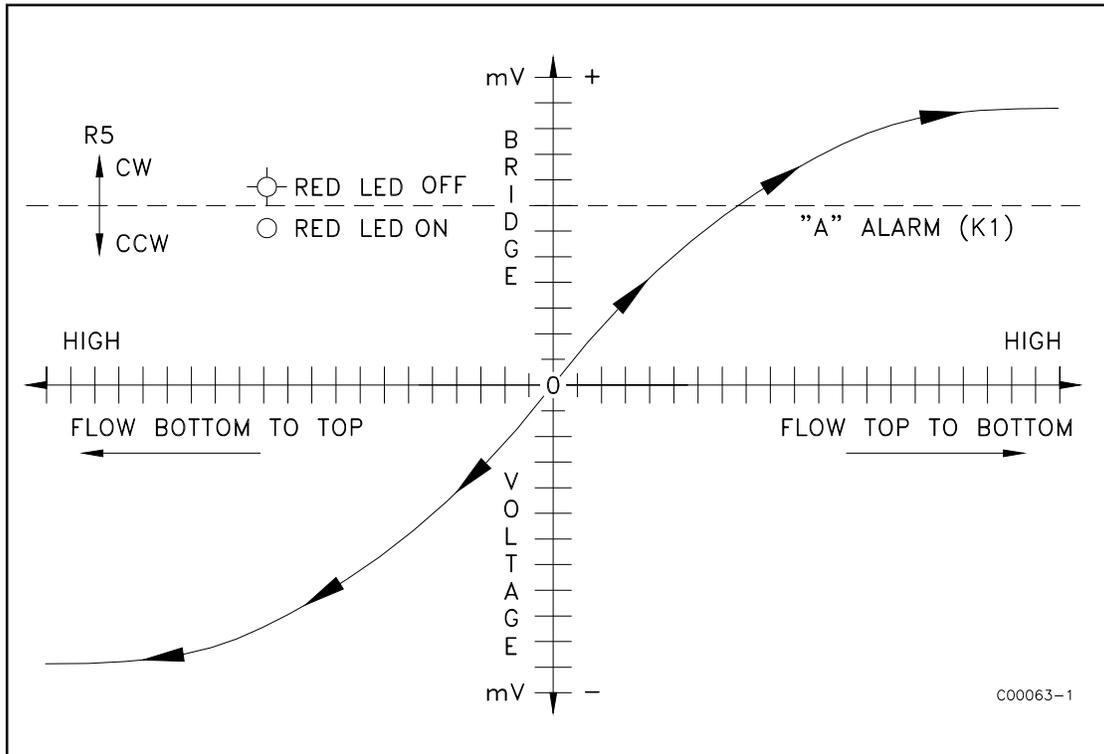

Figure 3-1. Setting Forward and Reverse Alarm Switch Points
The instrument is delivered in its standard factory set point form unless a custom factory calibration was specified. The standard factory setting is mid-range between no flow and full flow. See Figures 3-1 and 3-2.
3. Locate the potentiometer (R5) and the red LED on the control circuit. (See Figure 3-1 or 3-2.)
If the LED is off, turn the potentiometer clockwise until the LED turns on. If the LED is on, turn the potentiometer counterclockwise until the LED turns off, then turn the potentiometer clockwise until the LED just turns on. With the LED on, turn the potentiometer slowly counterclockwise until the LED just turns off. Turn the potentiometer one-half turn past the point at which the LED just turns off. Be aware that the potentiometer may have up to one quarter turn of hysteresis. If the mark is overshoot, the procedure should be repeated. See Figures 3-1 and 3-2 for potentiometer position and curve results.
If the LED is on, turn the potentiometer counterclockwise until the LED turns off. If the LED is off, turn the potentiometer clockwise until the LED turns on, then turn the potentiometer counter clockwise until the LED just turns off. With the LED off, turn the potentiometer slowly, clockwise until the LED just turns on. Turn the potentiometer one-half turn past the point at which the LED just turns on. Be aware that the potentiometer may have up to one quarter turn of hysteresis. If the mark is overshoot, the procedure should be repeated. See Figures 3-1 and 3-2 for potentiometer position and curve results.